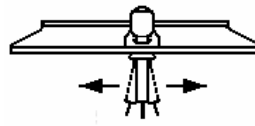

FIG 1
6. Remove the igniter by moving back and forth, walking the igniter out of the clip. (Fig. 1)
2. Pull the range out of the cabinet to expose the component shield (B).
- After removing the venturi, the burner base can be lifted out of the main top. Disconnect the wire (J) from the igniters. Lay aside the burner base on a working surface.
- Remove the igniter by moving back and forth, walking the igniter out of the clip. (Fig 1)